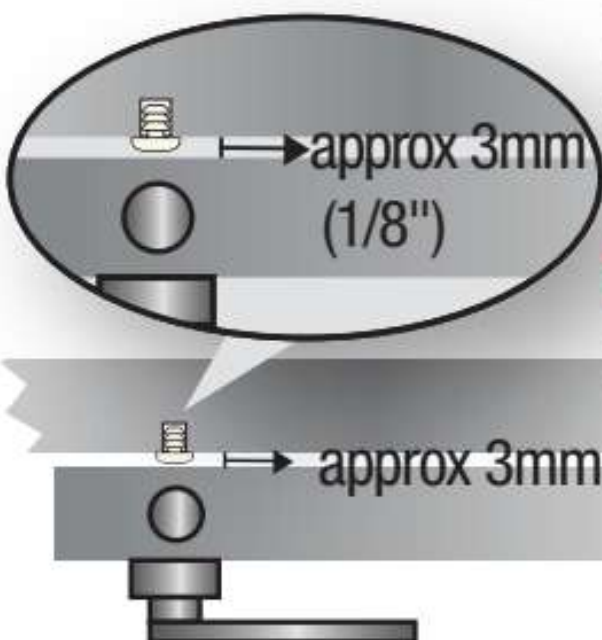

Fig. 3
4. Reposition pad **incrementally** along doorstep - towards magnetic catch end until gap between door and frame (at magnetic catch end) has been reduced/increased to approx. 3mm (1/8") when closed. (**Fig. 3**)